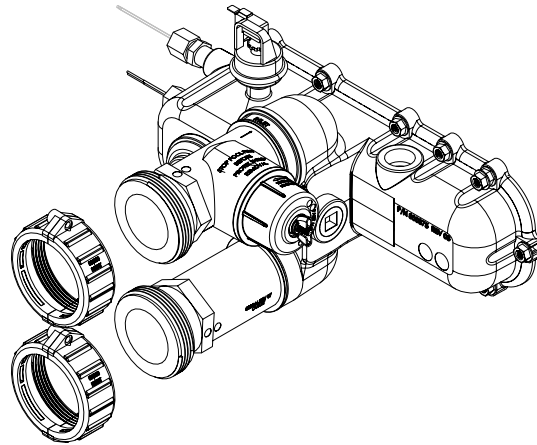

Figure 74. Inlet/Outlet Header
2. On the water connection, close any isolation valve to isolate the heater. Loosen the ring nuts at the inlet and outlet water connections. Allow all water drain fully from the outlet connection. See **Figure 74**.